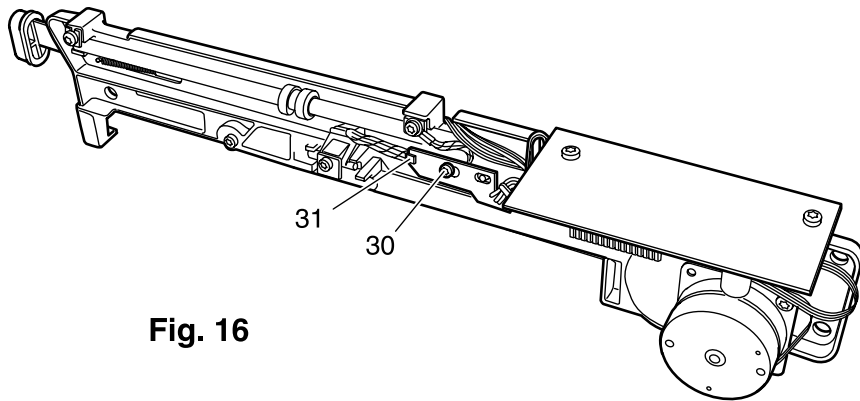

**Fig. 16**
2. Unscrew the Torx screw 30 of the Hall generator 31 (Fig. 16).
24. Screw down the hall generator circuit board 31 with the Torx screw 30 (Fig.16).